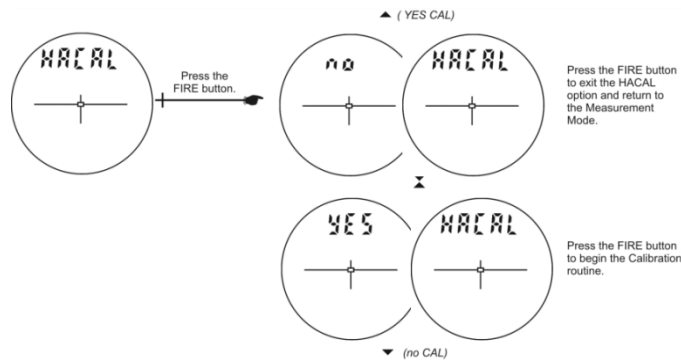

Figure 3. The TruPulse viewfinder during the compass calibration procedure.
5. **dECLn** is displayed. Press ▼ to display the **HACAL** option, then press “Power/Fire” again (Figure 3).